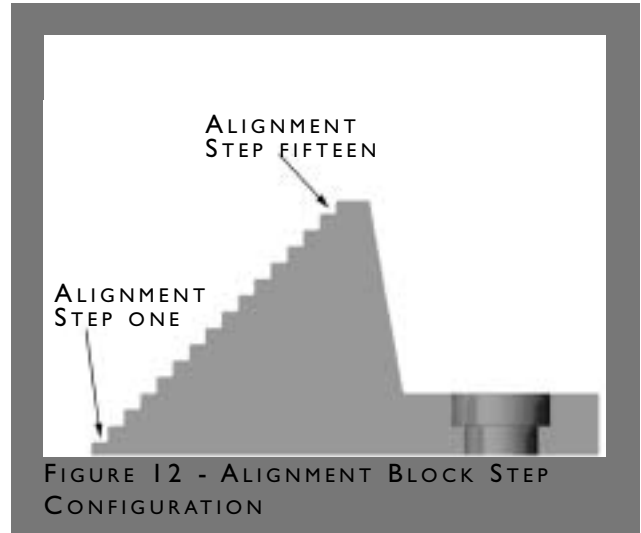

FIGURE 12 - ALIGNMENT BLOCK STEP CONFIGURATION
Figure 14). Figure 12 shows the location of the numbers on the Alignment Block. By counting from the bottom step starting at one and counting upward, you may determine the location of the rear alignment spike referred to in the Propagation Delay Table. The Propagation Delay Table contains the information for the rotation of the module within the array. As mentioned, the alignment height is set by the Alignment Block. Determine the alignment of the upper module as follows:
7. Place the spike on the step indicated from the table in Section 9 (See Figures 12, 13, and 14).